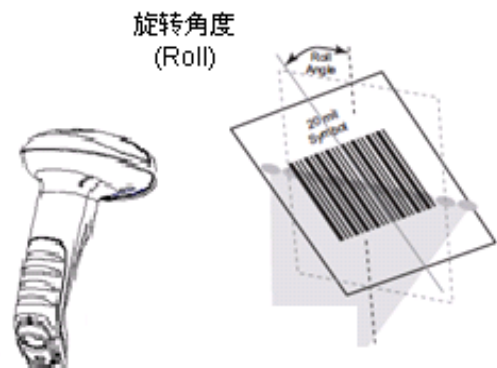

Fig. 1-15
- ◇ Roll :  $\pm 30^\circ$ ,  $0^\circ$  Pitch and  $0^\circ$  Skew (Fig. 1-15)